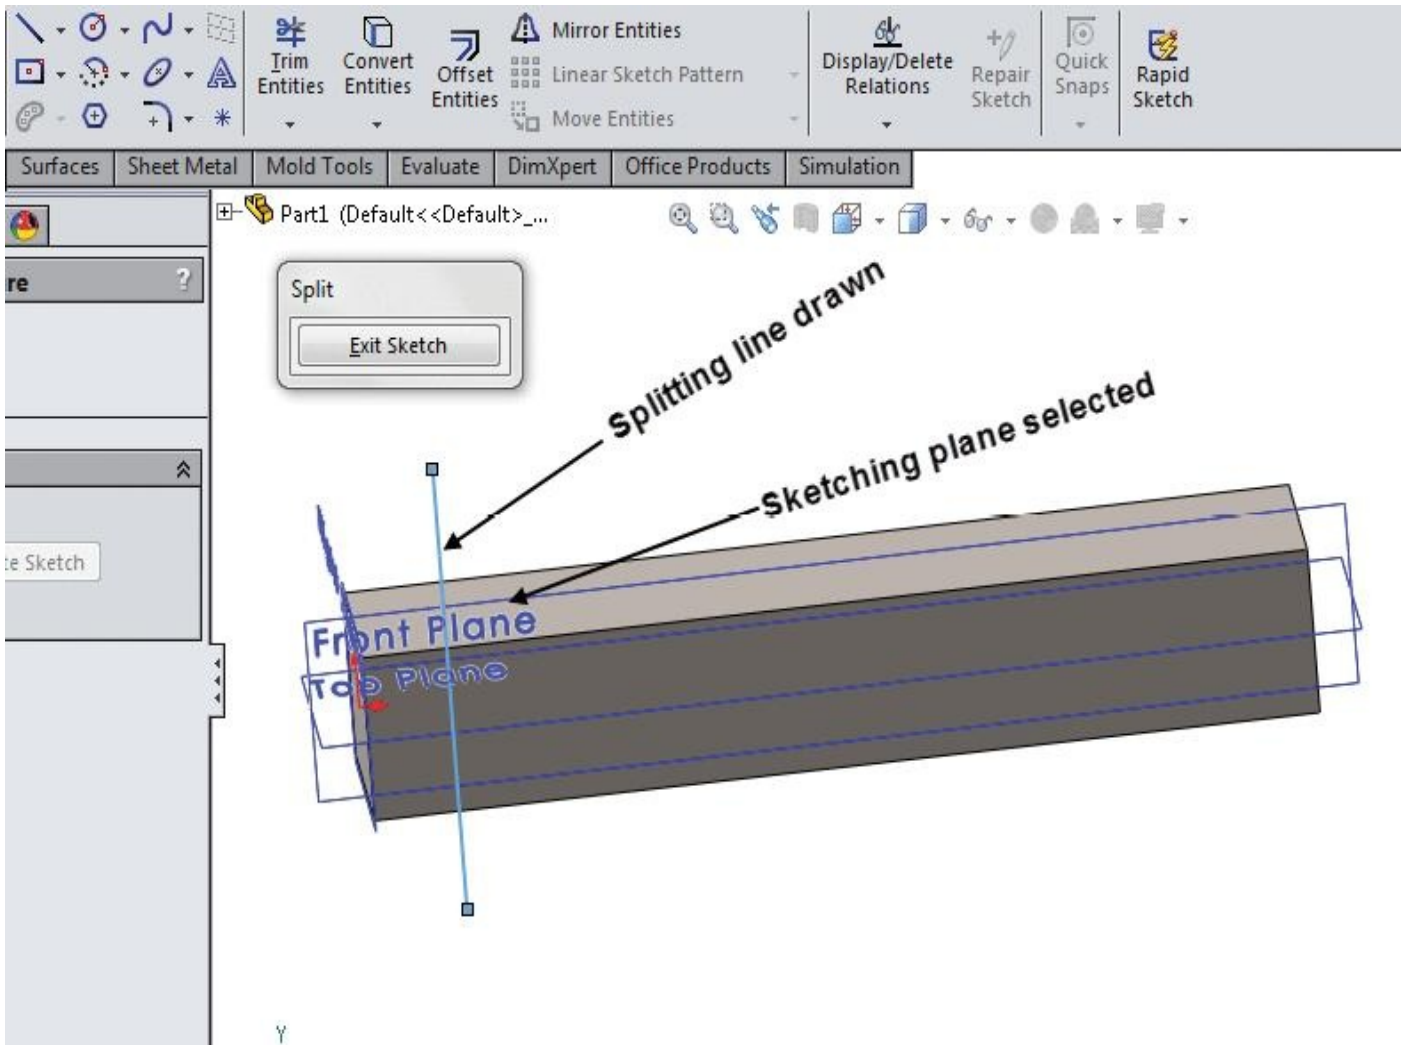

Figure-14. Splitting line drawn
- Create the splitting line by using the **Line** tool; refer to Figure-14.